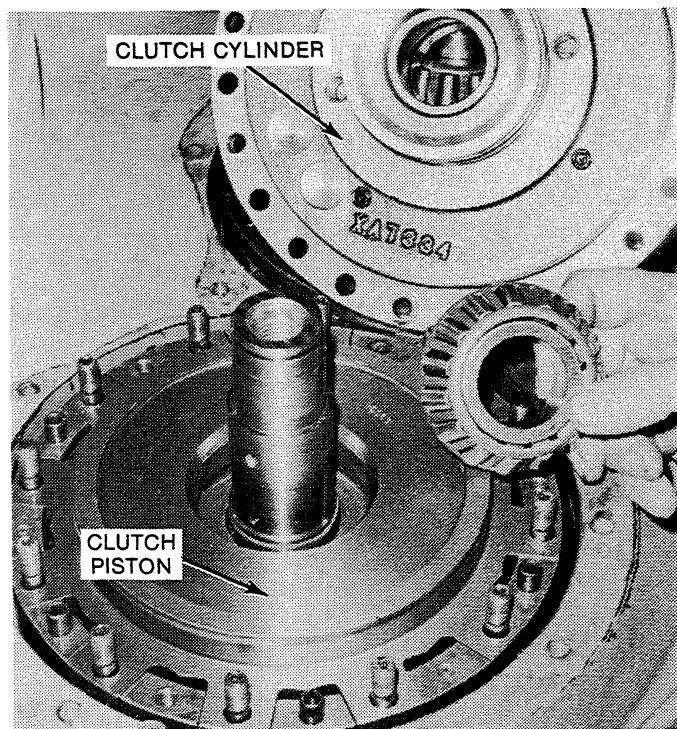

Figure 6-13. Cylinder and Roller Bearing Removed.
5. Remove the clutch piston (9) from the clutch cylinder. See Figure 6-13.